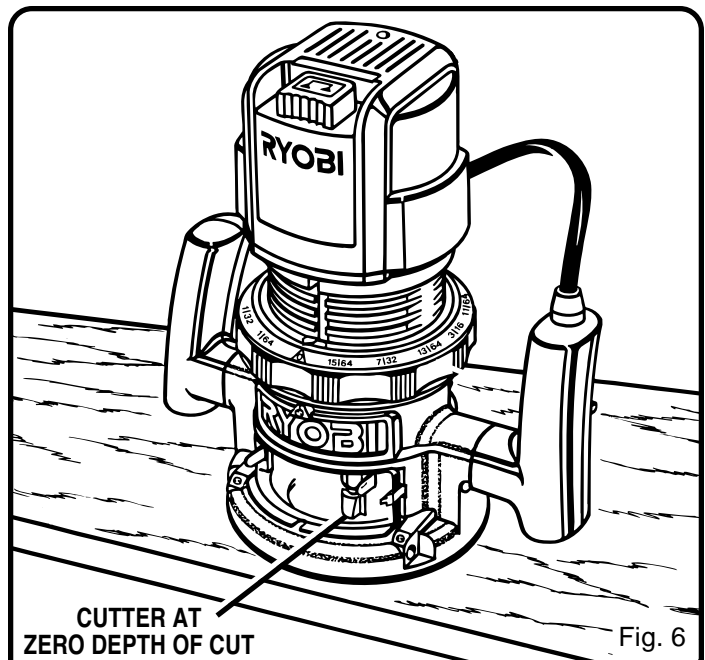

Fig. 6
3. Turn the depth adjusting ring until tip of cutter touches flat surface (zero depth of cut). *See Figure 6.* Next turn depth indicator ring until the zero lines up with the indicator point on front of motor housing. *See Figure 5.*